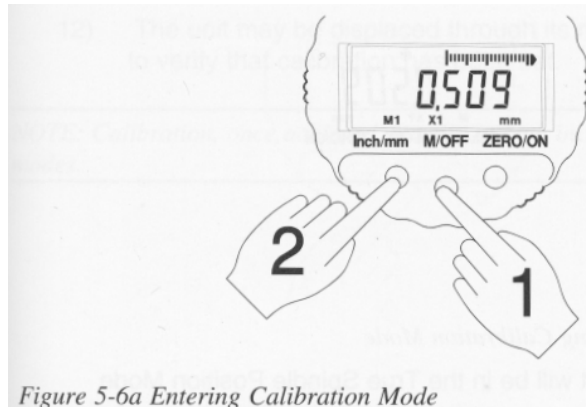

Figure 5-6a Entering Calibration Mode
- 3) Press and hold M/OFF(1) and then press and release in/mm(2) until the M1 icon is displayed. (Fig.5-6a)